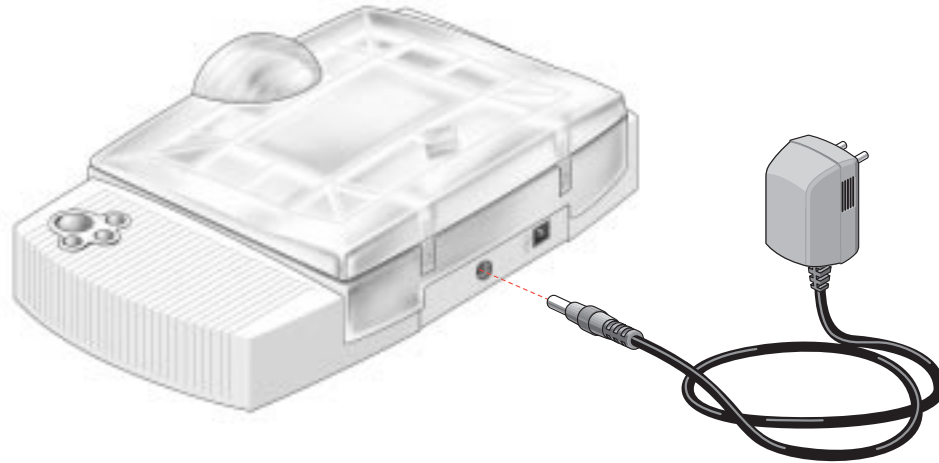

Figure 1
- 1. Connect the plug of the AC adapter to your scanner (Figure 1).